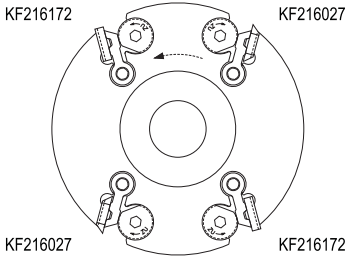

Fig. 4
3. Using the same Allen key, turn the tongue (3) away from the knife.
6. Carefully place the reversed or new knife into the knife seat. Position the knives according to Fig 4. Be sure that the cam of the knife engages completely with the notch of the tongue (see Detail X), in order to ensure the correct radial position. The lateral position results from the V-Groove on the back of the knife and the supporting cam on the tool body (see Detail Y).